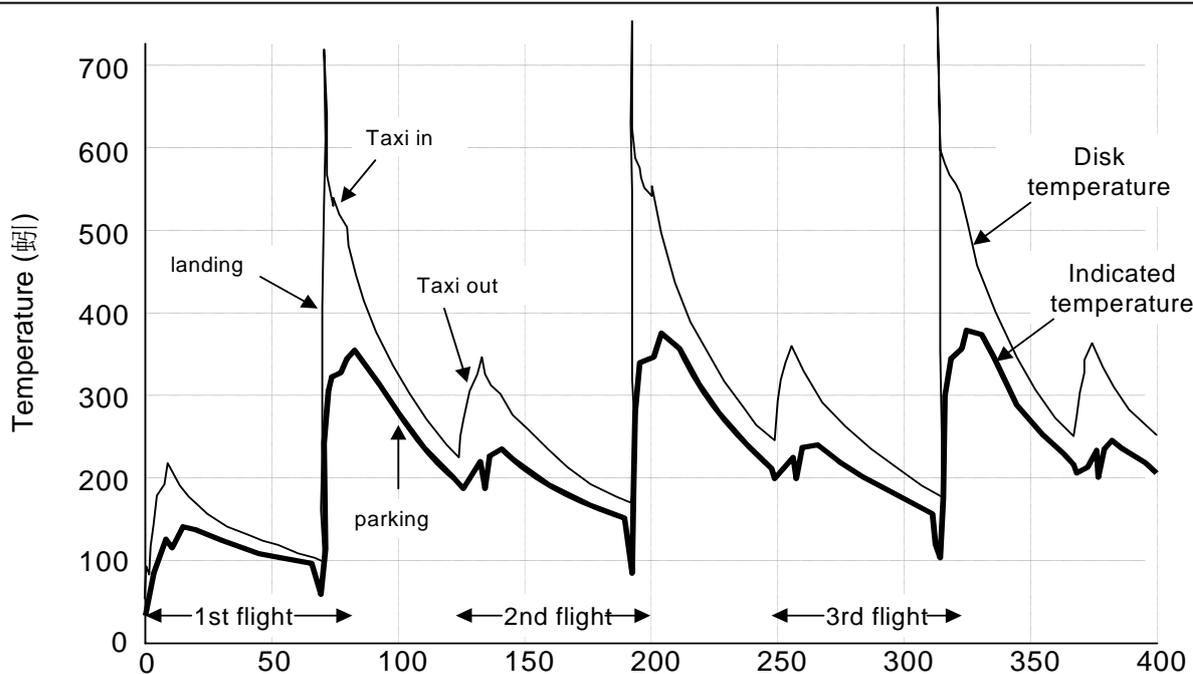

Figure 7 - Example of brake temperature profile achieved over given route data (Aircraft not equipped with brake cooling fans)
- For taxi out, Figure 7 illustrates a scenario where the turnaround time is such that, the brake temperature is not sufficiently cooled down to perform the taxi out with brake temperature in the "left-hand part" of the curves given in Figure 6. Therefore, as far as carbon brake wear is concerned, it might be advisable to keep the taxi out temperature in the "right-hand part" of the curve. This is what certain brake manufacturers (e.g. BF Goodrich and ABS) promote. It should be noted that their curves, although having the same shape, are shifted to the left, compared to those of Messier-Bugatti and Honeywell-ALS (see Figure 6). That is why:
It is obvious that, for Messier-Bugatti and Honeywell-ALS, according to Figure 6, an indicated temperature of around 200°C (achieved during taxi out, as evidenced by Figure 7), is far from being optimum for brake saving. That is why they both promote keeping the brake cool for taxi out:
However, if the aircraft is not fitted with brake fans, the succession of short legs and short turnaround times (as described in the Figure 7 scenario), might lead to taxiing out the aircraft with hot brakes. This is acceptable, as long as the BRAKE HOT warning does not come on prior to takeoff. In any cases, taxi out should not be started with BRAKE HOT warning illuminated.